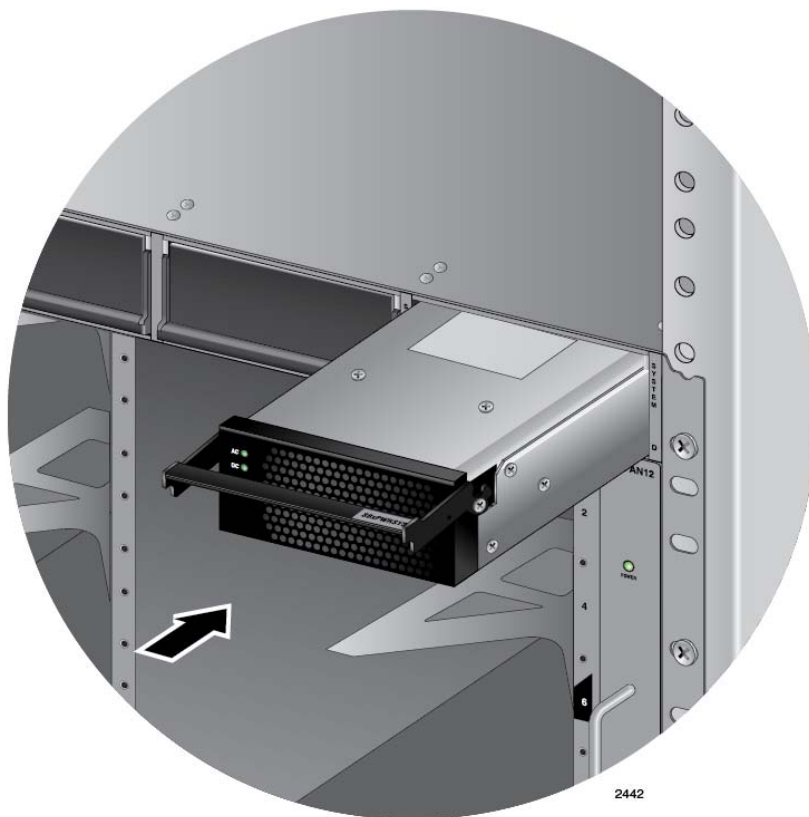

Figure 60. Inserting the AT-SBxPWRSYS1 or AT-SBxPWRSYS2 AC System Power Supply
5. Align and insert the power supply into the power supply slot. Figure 60 shows the power supply installed in slot D.